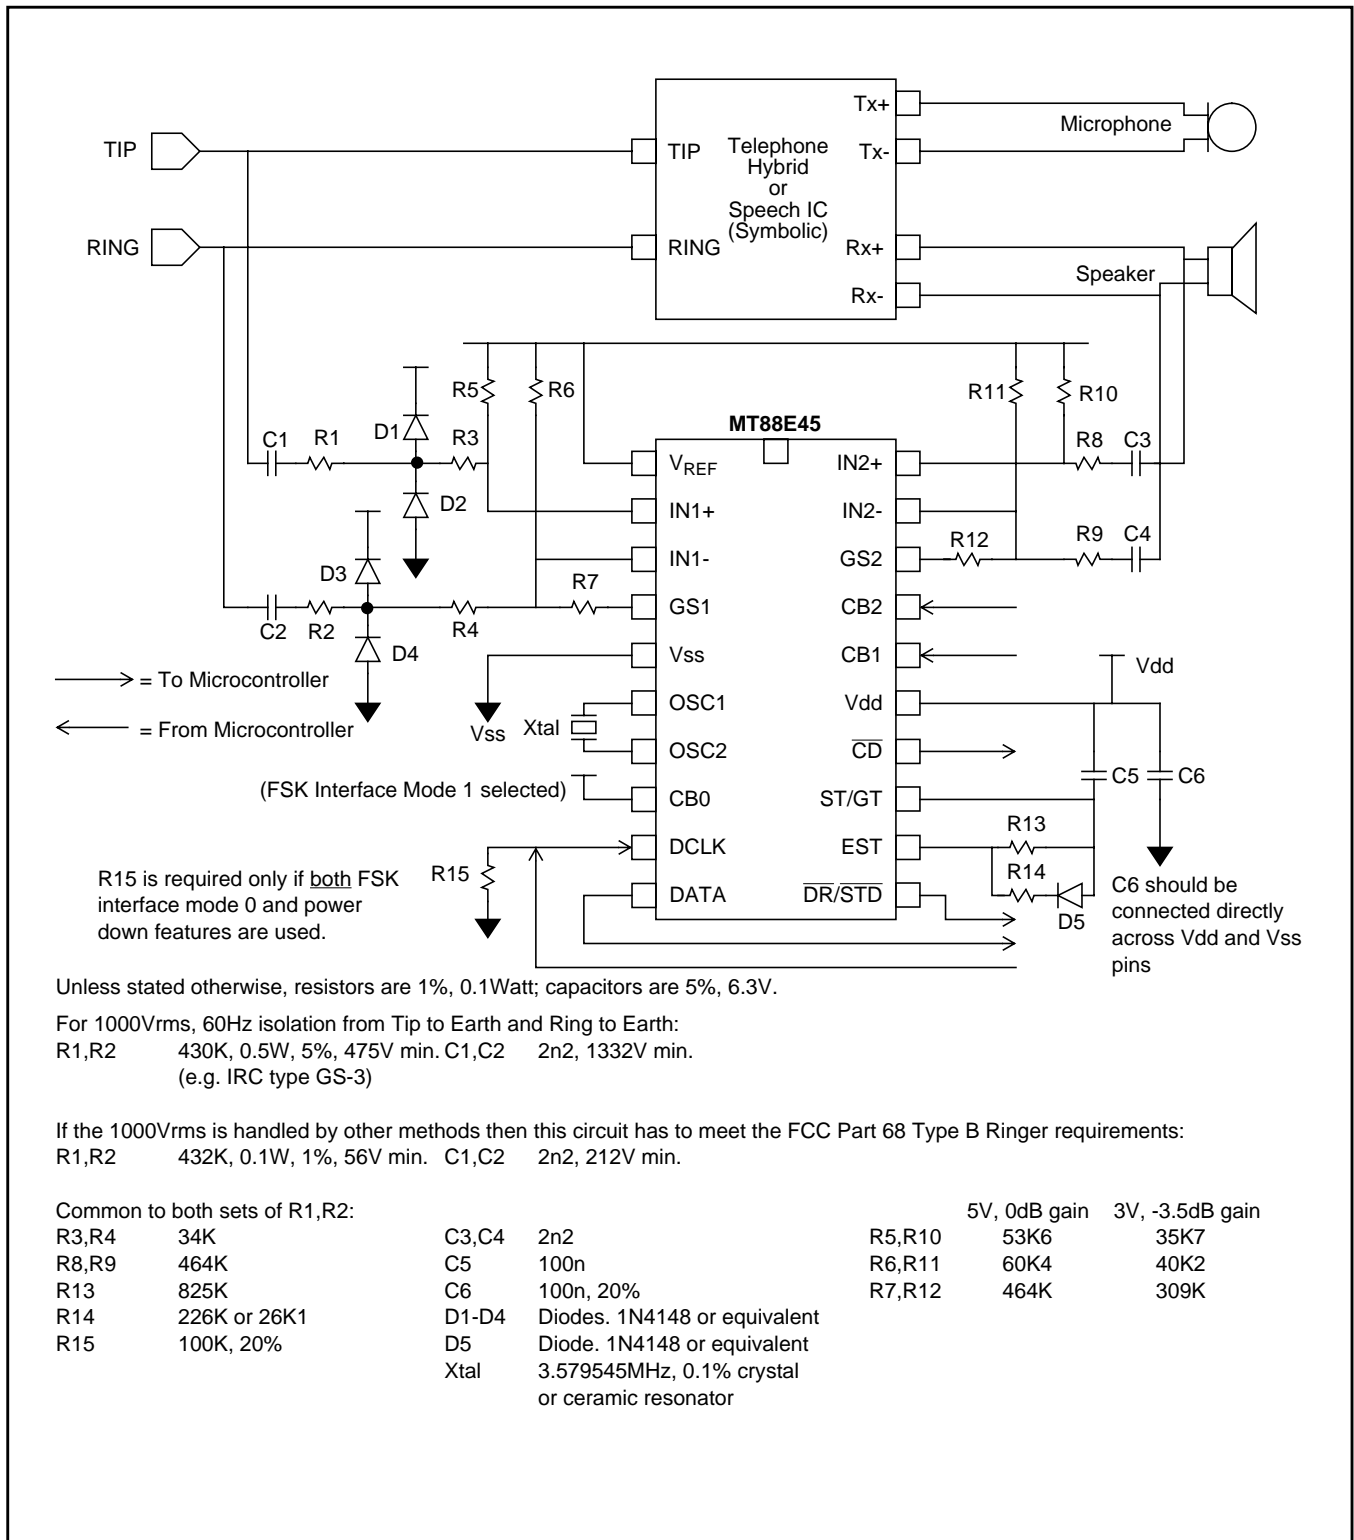

Figure 7 - Application Circuit: Bellcore MEI Compatible Type 2 Telephone
In power down mode both input op-amps, V_{REF} and the oscillator are non functional. DCLK becomes an input because to select the power down state CB0 is 1 which will select FSK interface mode 1. If the application uses FSK interface mode 0 and the MT88E45 needs to be powered down then a pull down resistor should be added at the DCLK pin to define its state during power down (R15 in Figure 7). When the MT88E45 is powered down DATA, $\overline{DR}/\overline{STD}$, \overline{CD} are high; EST and ST/GT are low.
- For the GS1 op-amp, start with the 0dB gain setting resistor values of $R5_{0dB}$, $R6_{0dB}$ and $R7_{0dB}$. In Figure 7 these values are 53K7, 60K4 and 464K respectively. Keep C1,C2,R1,R2,R3,R4 as in Figure 7 to maintain the highpass corner frequency constant for all gain settings.